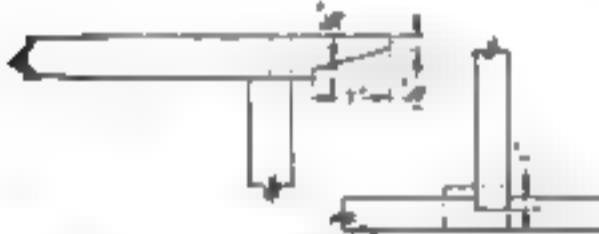

Fig. 3 Detail showing how the beam across each end may be dadoed 1 in. into the side beams.
8. If desired, join the end beams to the side beams with a shallow dado or housed joint to add strength (see Fig. 3).